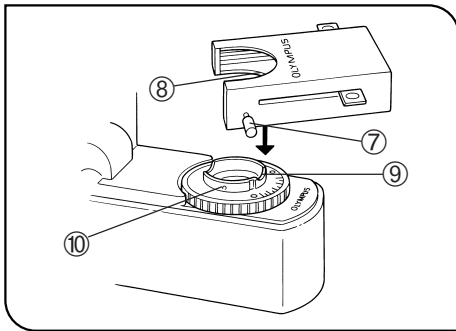
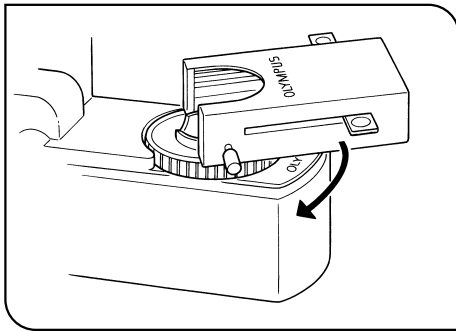

Fig. 8
Fig. 9
1. Fully loosen the filter cassette clamping screw ⑦. (Fig. 8)
2. Align the key ⑧ on the bottom surface of the filter cassette with the positioning slot ⑨ on the filter mount, then snap the filter cassette into place from above.
3. Rotate the filter cassette to align its sides with the base. (Fig. 9)
4. Align the clamping screw ⑦ with the positioning hole ⑩ on the filter mount, then tighten the screw to fasten the filter cassette.